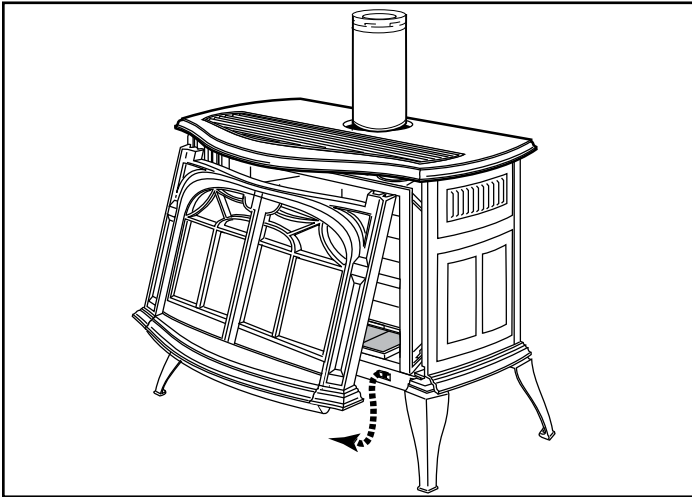

Figure 87 - Remove the stove front.
Replace glass only with HHT approved parts. Refer to Replacement Parts section for correct glass. Refer to Figures 87 and 88 and previous instructions for removal of the damaged glass frame.
1. Remove the Front, Glass Frame and Glass Panel. (Figures 87 & 88) Remove the old gasket. Use a razor blade to separate the glass and gasket from the frame, and to clean the glass of any remaining cement or bits of gasket. Use a cold chisel if necessary.